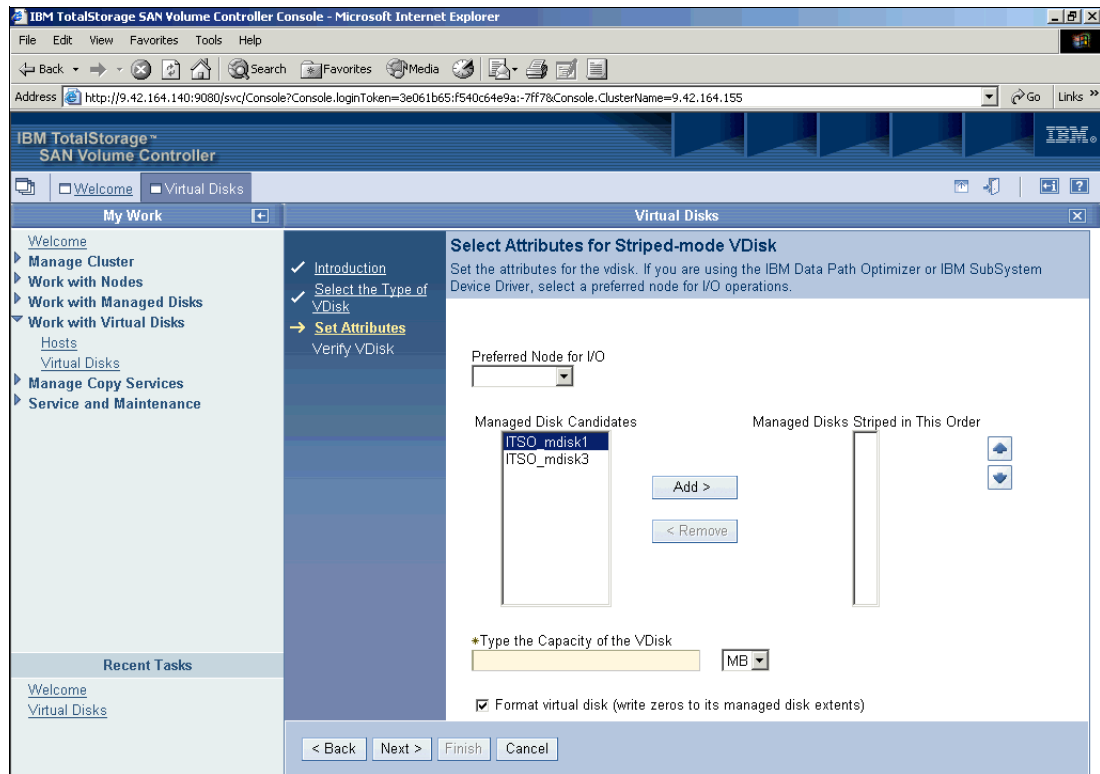

Figure 9-63 Creating a vDisk wizard: Select Attributes for Striped-mode vDisk
– As shown in Figure 9-63, with a *striped vDisk*, you can: